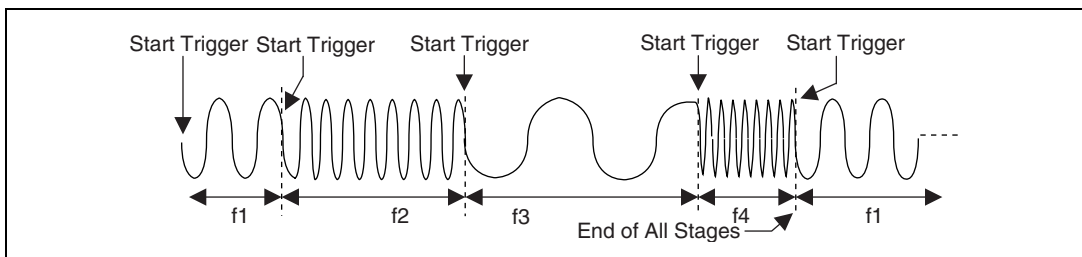

Figure 2-14. Burst Trigger Mode for DDS Mode
- DDS mode—Figure 2-14 illustrates a burst trigger mode of operation for DDS mode. Switching from stage to stage is phase continuous. In this mode, the time instruction is not used. The trigger paces the waveform generation from one frequency to the other.